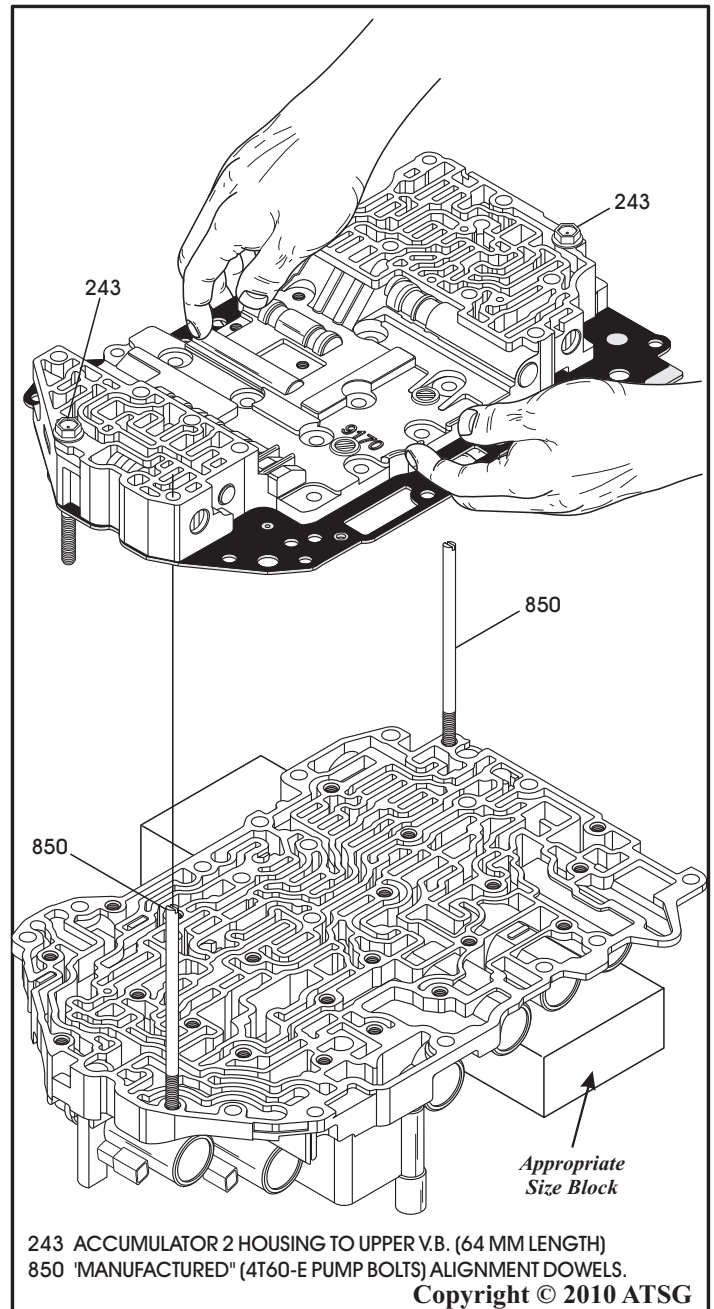

Figure 155
17. Place the completed lower valve body on a flat work surface with an appropriate size block to hold the lower valve body level, as shown in Figure 155.
18. Install two "manufactured" (4T60-E pump bolt) alignment dowels in the positions shown in Figure 155.
19. Clamp the spacer plate to upper valve body with your hands and very carefully turn the assembly over, as shown in Figure 155.
20. With the small parts installed in the lower valve body, hands clamping small parts in place in the upper valve body, very carefully install the upper valve body and spacer plate over the alignment dowels and onto the lower valve body, as shown in Figure 155.